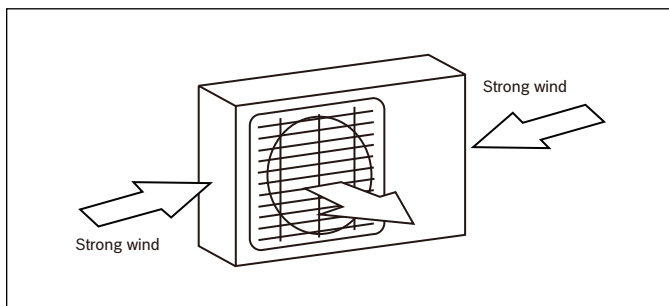

Figure 20
- ▶ If the unit is exposed to heavy wind: Install unit so that air outlet fan is at a 90° angle to the direction of the wind. If needed, build a barrier in front of the unit to protect it from extremely heavy winds. See Figures 20 and 21.